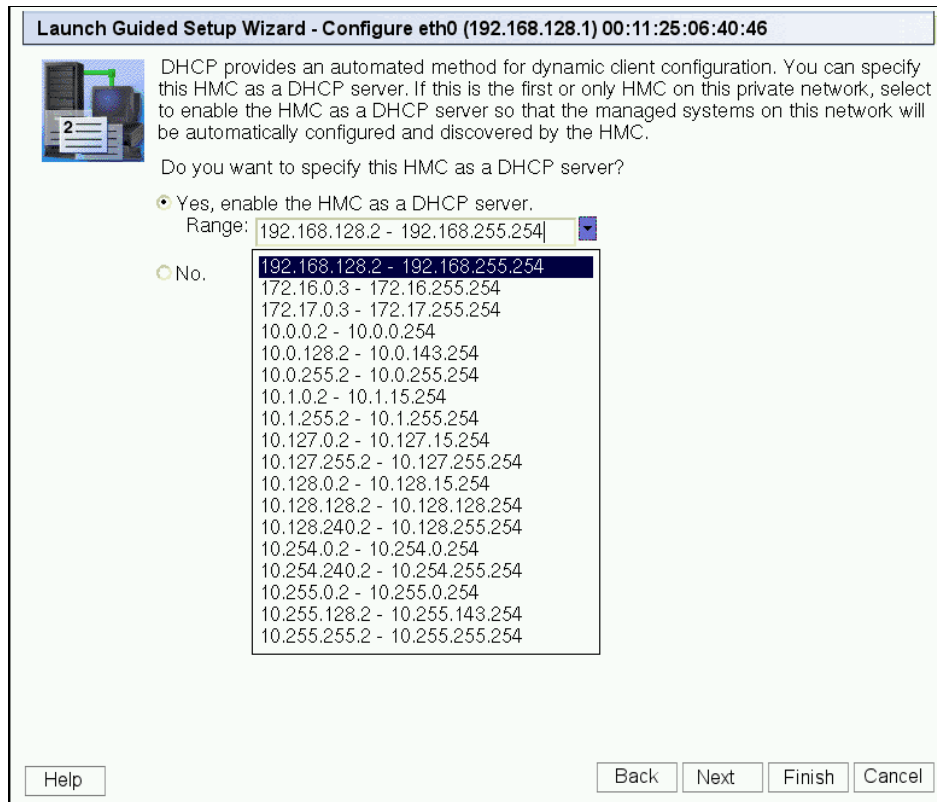

Figure 3-20 Launch Guided Setup Wizard - Configure eth0 DHCP
13. The Launch Guided Setup Wizard - Configure eth0 DHCP panel displays (see Figure 3-20). We have to define the HMC as a DHCP server so our managed system is assigned an IP address by the DHCP server.